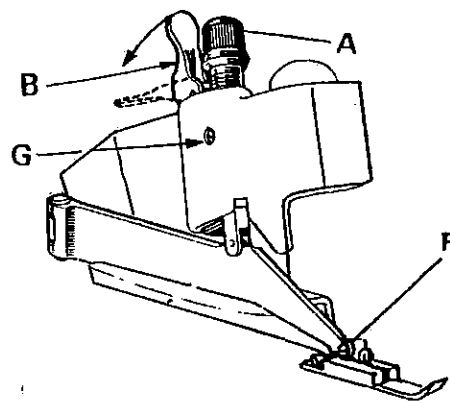

fig. 22
4. Press lever B right down. (fig.22)
#### c) Positioning and adjusting presserfoot pressure (fig. 22)